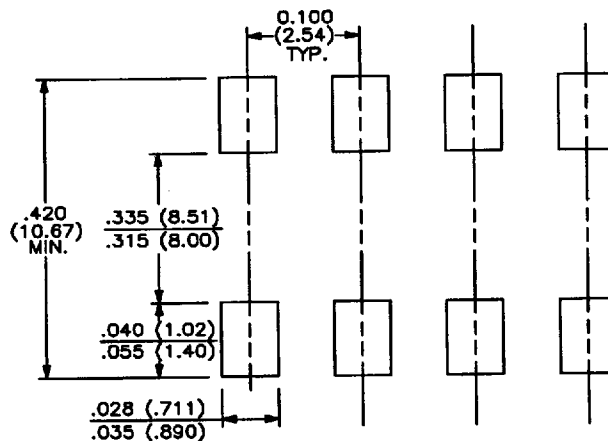

FIGURE 27: Recommended solder pad footprint, 8-pin Gull Wing configuration.
- Figure 27 represents the 8-pin GULL WING solder pad we recommend and is basically the equivalent of the industry standard SO-16L wide footprint utilizing every other pad (i.e. lead centers are .100" instead of .050").